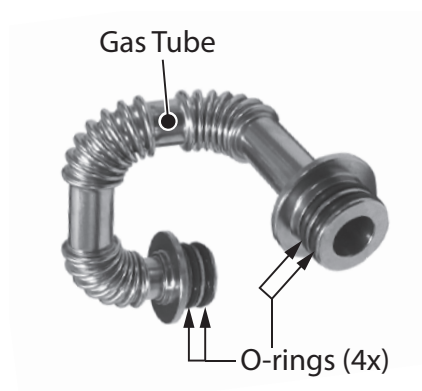

Figure 99 - Install O-rings to gas tube
- Locate the new gas tube and four (4) O-rings provided in the kit. Install O-rings to grooves located on each end of gas tube as shown in Figure 99. Install gas tube to venturi and gas valve.